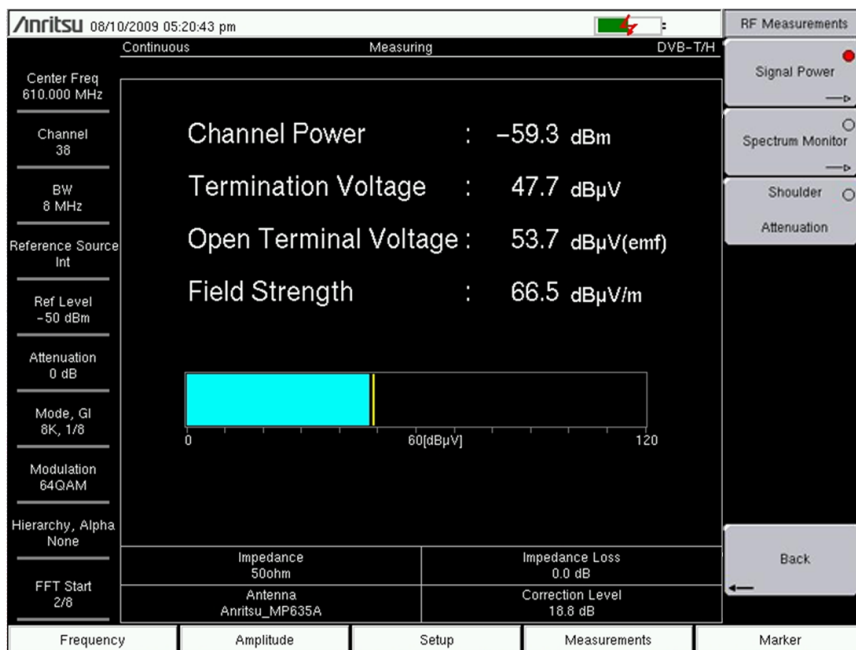

Figure 2-19. Signal Power Measurement Screen
3. Press the Signal Power submenu key to activate the measurement. The sample image in Figure 2-19 may differ from the actual screen on your instrument.